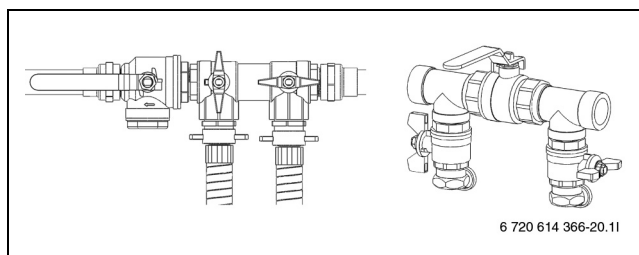

Fig. 39 Filling units in pressure increase position
- ▶ The circuit must be pressurized when venting is complete. Turn the valves on the filling unit to pressure increase position and pressurize the circuit to 2.5 to 3 bar (→ Figure 39).